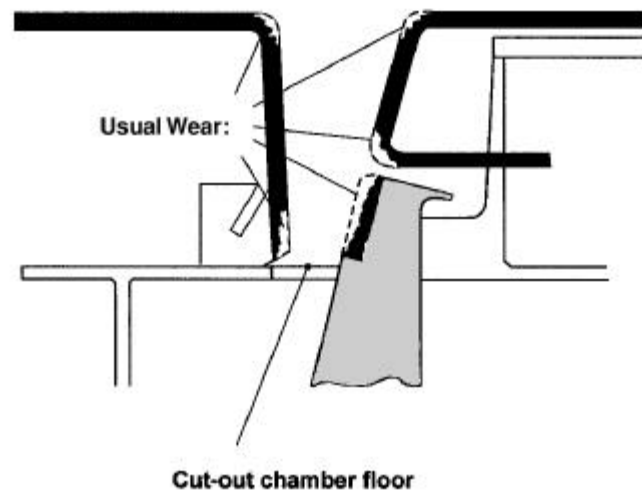

Figure 4 Material losses on contacts
(See Figure 4)
1. Dimension “W” is checked with the circuit-breaker closed on bush (337) projecting from the cover (324) (See Figure 4).